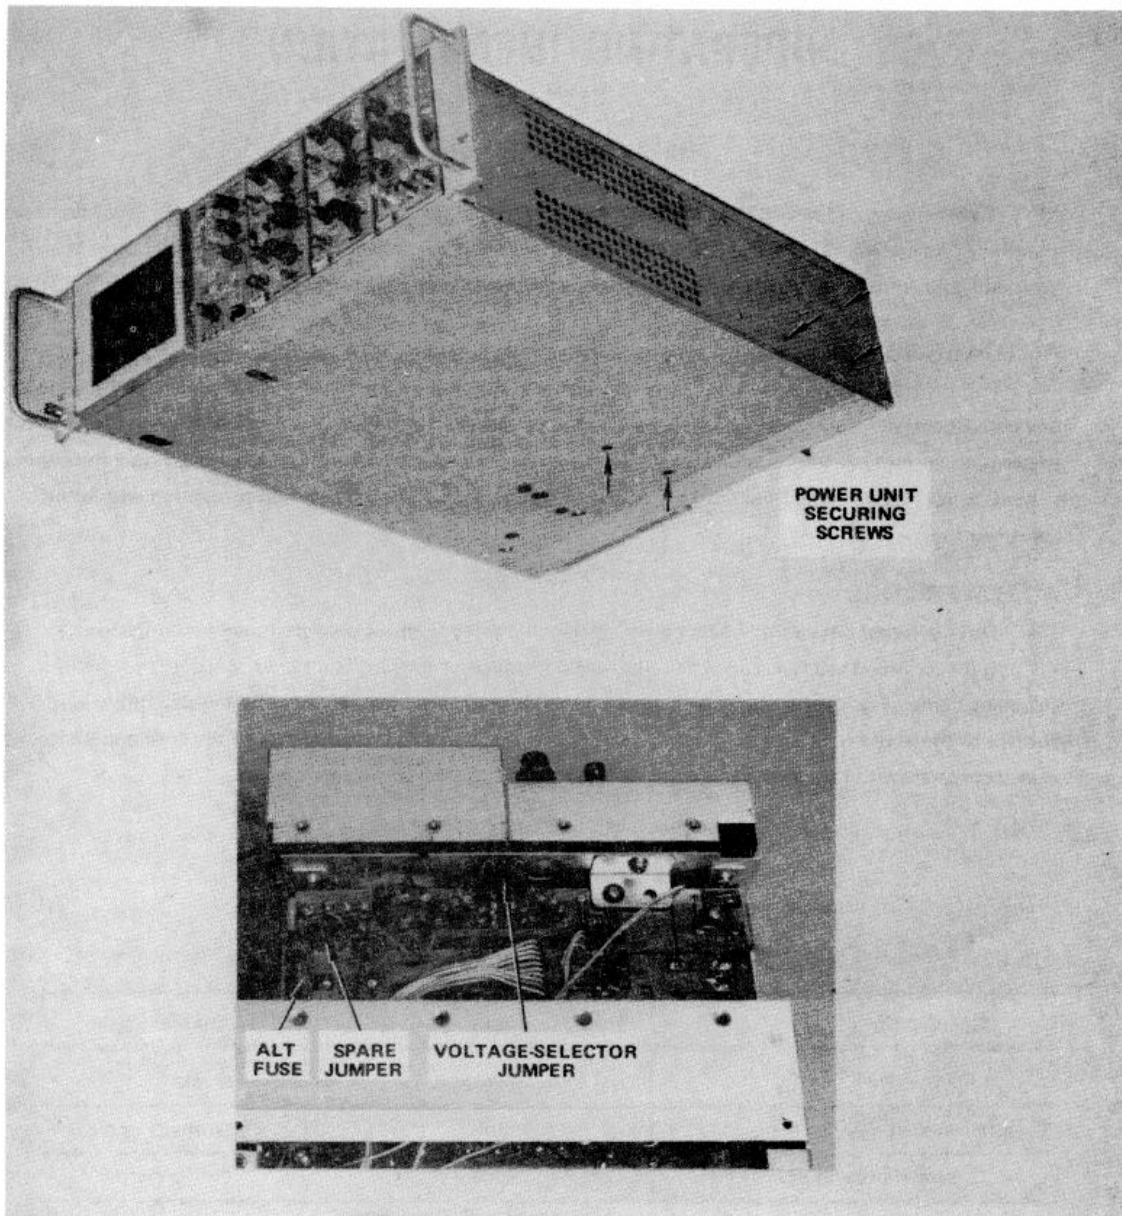

Figure 1-1. Location of voltage-selector jumper.
2. Remove the six screws securing the power unit (nine screws in the R7623A, see Figure 1-1)
4. To convert from 110-volts to 220-volts nominal line voltage, or vice versa, remove the voltage-selector jumper and replace it with the spare jumper stored on the pins adjacent to the voltage selector area (see Figure 1-1). The jumpers are color coded to indicate the nominal voltage for which they are intended, brown for 110-volt nominal operation and red for 220-volt nominal operation. Change the fuse to provide protection for the selected nominal line voltage. Use the fuse located in the Alt Fuse holder on the Rectifier board (see Figure 1-1 for fuse location and Table 1-2 for fuse type). Also, change the line-cord plug to match the power-source receptacle or use a suitable adapter